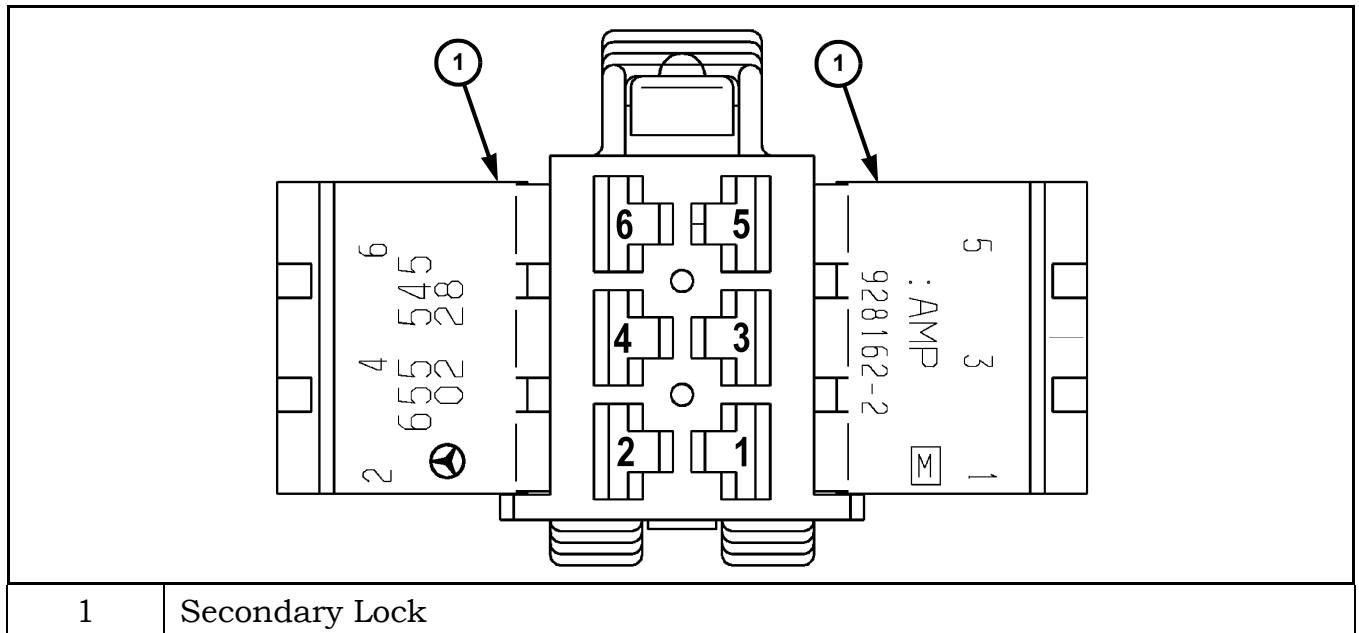

Figure 246 Six-Pin Connector Front View
17. Release the six-pin connector (05120786AA) secondary locks. Insert the terminals, part 05103882AA, into the cavities of the connector as follows: gray wire into cavity #1; black wire into cavity #2; blue wire into cavity #3; yellow wire into cavity #4; green wire into cavity #5, and red wire into cavity #6. Insert the wires until they click into place. Gently tug on the wires to make sure they are secure and fasten both secondary locks (Figure 246).